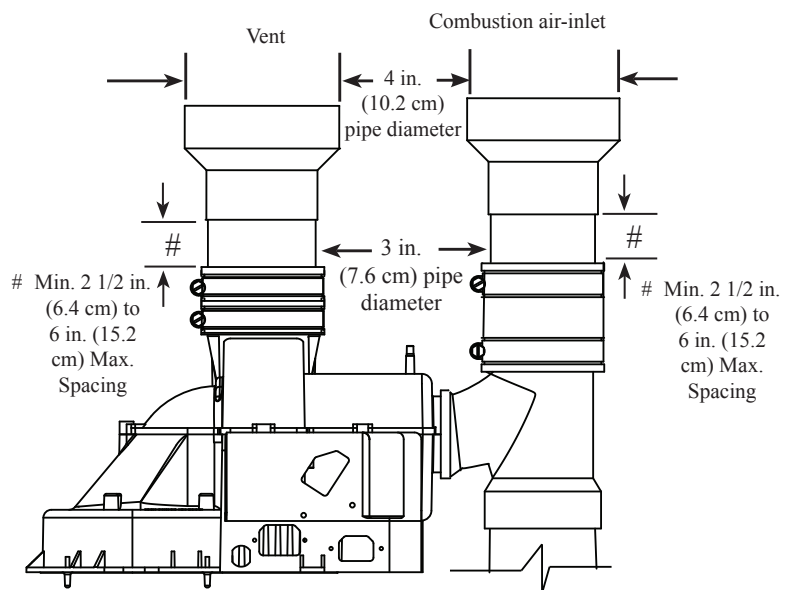

Figure 2
- Followed by a 3 in. (7.6 cm) to 4 in. (10.2 cm) diameter pipe increaser fitting (See Figure 2).